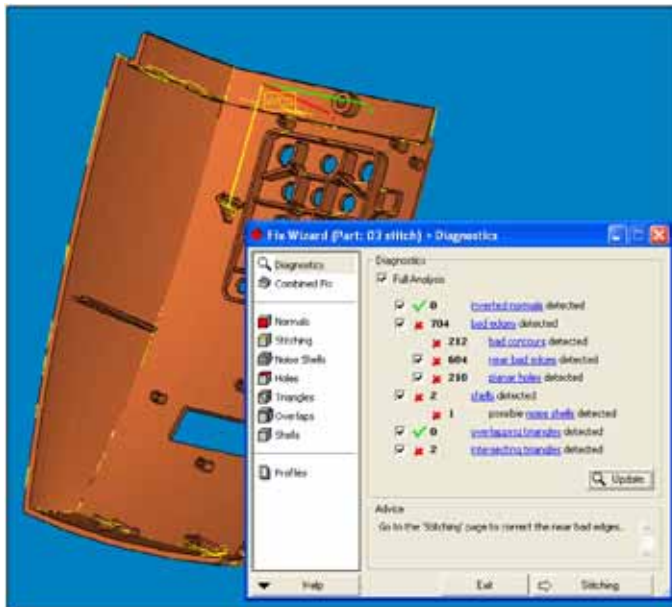

Figure 69: Model to fix – 03 stitch.stl
- The model for this exercise is shown Figure 69.